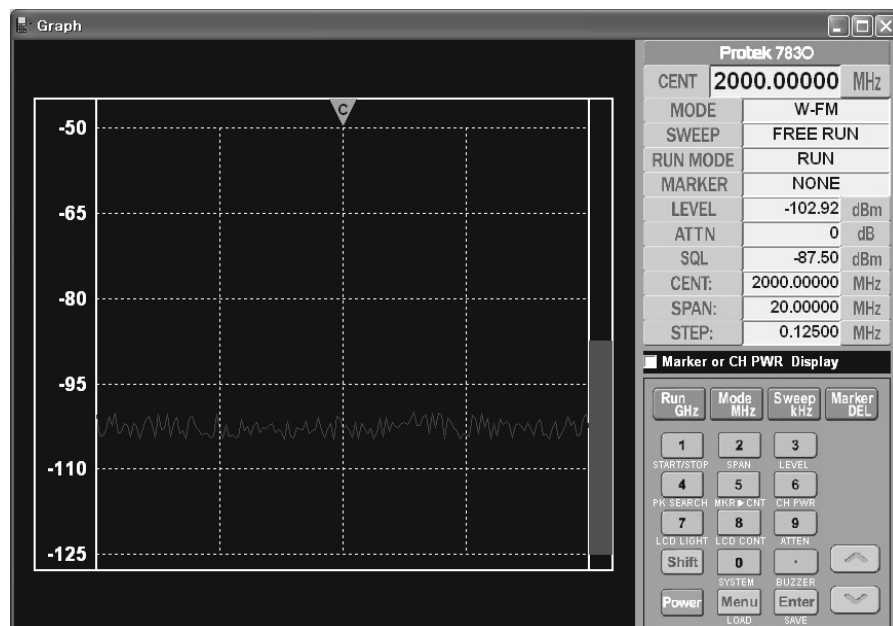

Figure 3.1. Function of LCD display
The measurement graph is displayed GUI equipment on LCD monitor and this graph can be enlarged for user reviewing. To use enlargement mark function, the user can use the window of graph. As the Figure 3.1, double click the LCD display, run the window of graph.
- 3) If user runs the window of graph as the Figure 3.1, user can check whether “Protek 7830” icon is changed to the “Shift” icon on upper right side monitor
- 7) If user runs the window of graph as the Figure 3.1., user can check whether “Protek 7830” icon is changed to the “Shift” icon on upper right side window of graph.